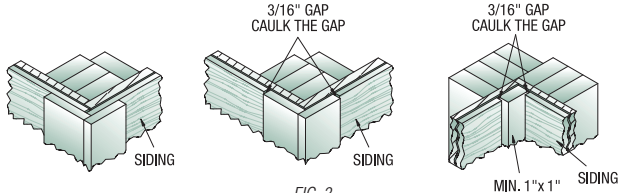

FIG. 3
- Gap the siding at all corners 3/16" and caulk. See Fig 3.
- When butting siding to inside or outside corners, use a minimum 4/4" thick (nominal) dry wood material. TruWood Trim is recommended. See Fig 3.